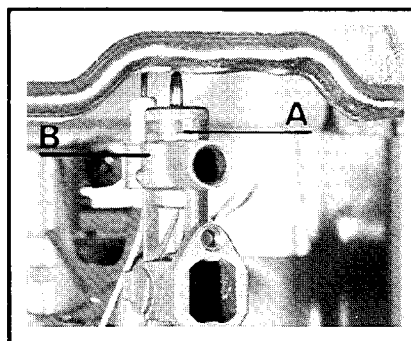

Fig. 3
4) Pilot (fig. 3).
- Unscrew the knurled pilot burner outer ring A (fig. 3).